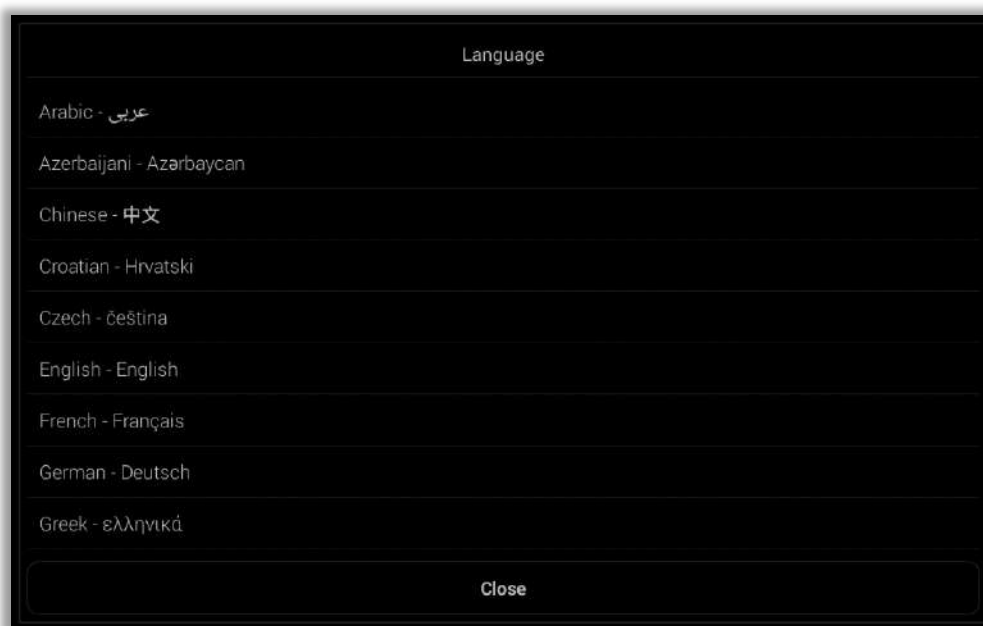

Fig. 52 : Language List
- 2 By pressing this touch button, set the Language of the panel. The list of languages opens on the screen (Fig. 52). The language to be set is selected in the list.